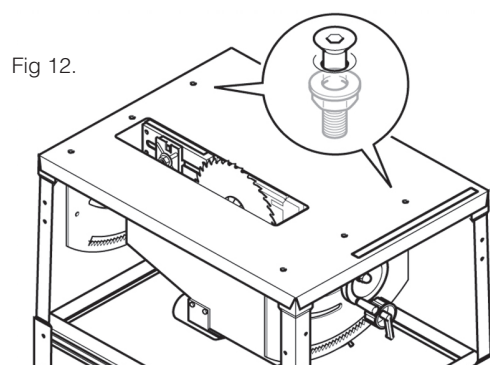

Fig 12.
- Turn the motor unit until it is parallel with/or at the right angle to the rulers. Fig 12.